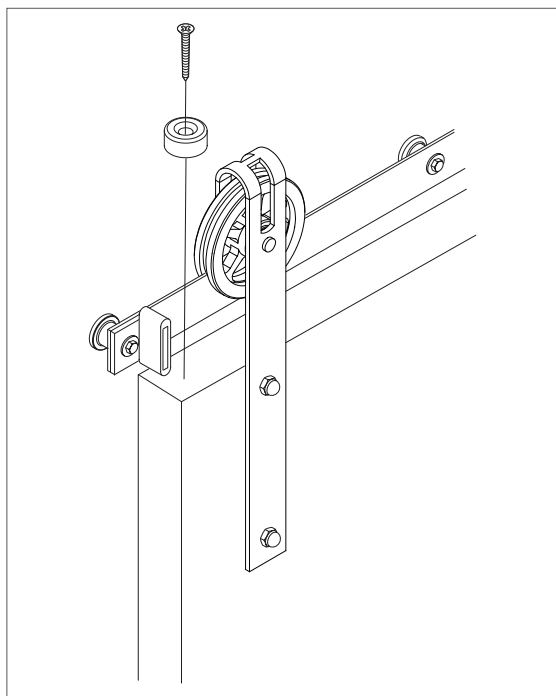

Figure 10
20. Place the Anti-Jump block on the top of the door. (Figure 10). Using a drill with a phillips bit, install the the block with the 1" phillips screw (provided).